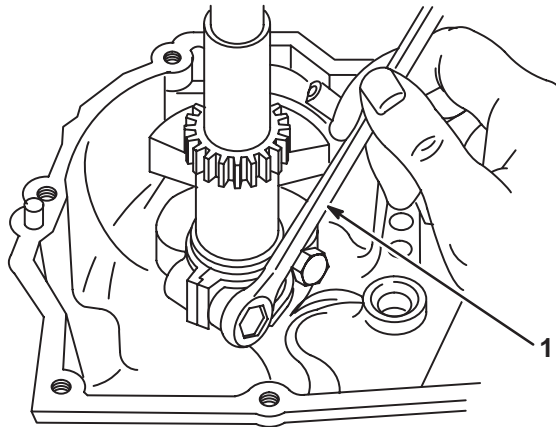

Fig. 117 – Remove Piston and Connecting Rod
1. Remove connecting rod cap, Fig. 117.